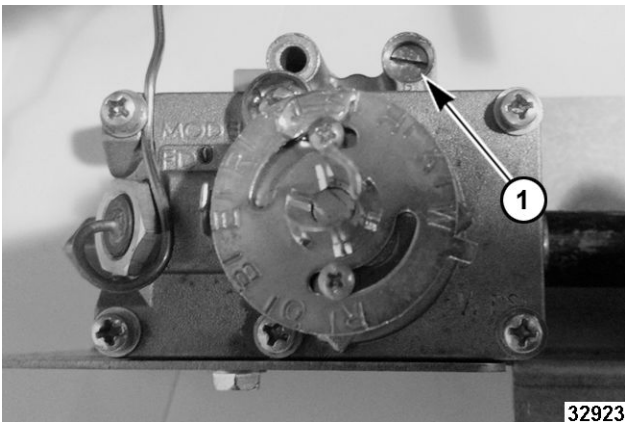

Fig. 138
5. With a screwdriver, turn by-pass flame adjustment screw (1, Fig. 138) counterclockwise to increase by-pass flame or clockwise to decrease flame until the entire burner has 1/8" min. to 1/4" max. stable flame on each port.